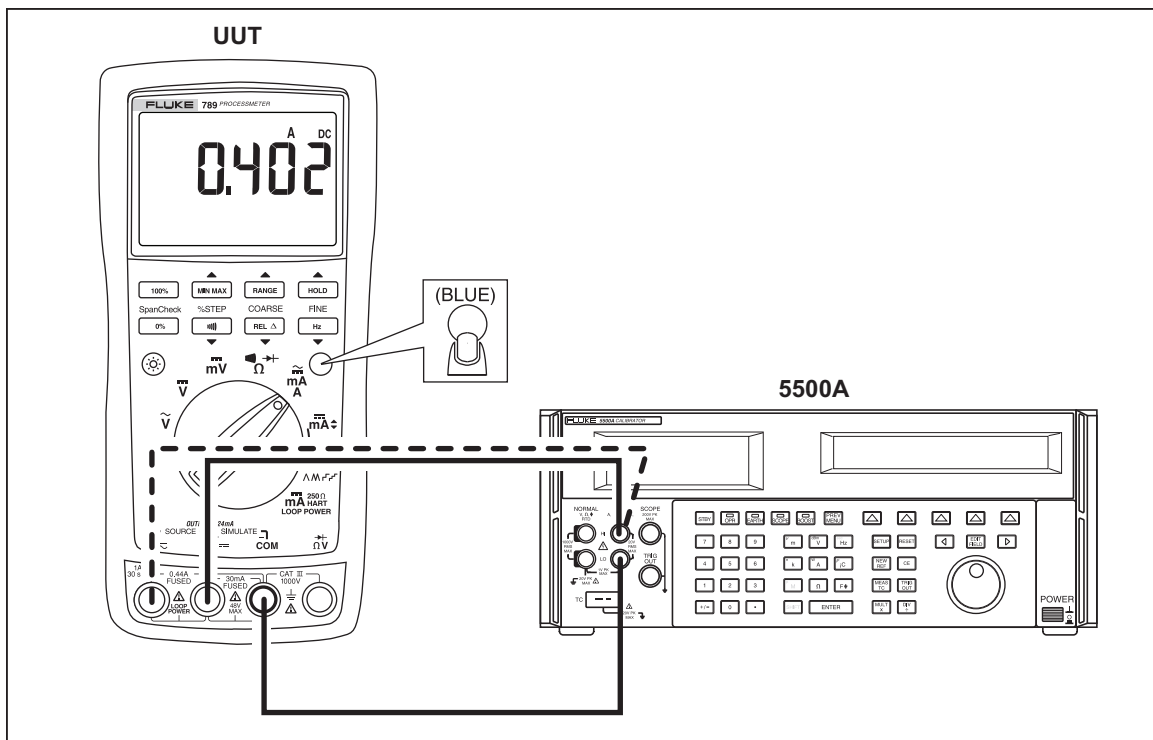

Figure 4. Current Measurement Test Connections
3. Connect the calibrator to the **COM** and  $\overset{\sim}{\text{mA}}$  terminals on the UUT as shown in Figure 4.